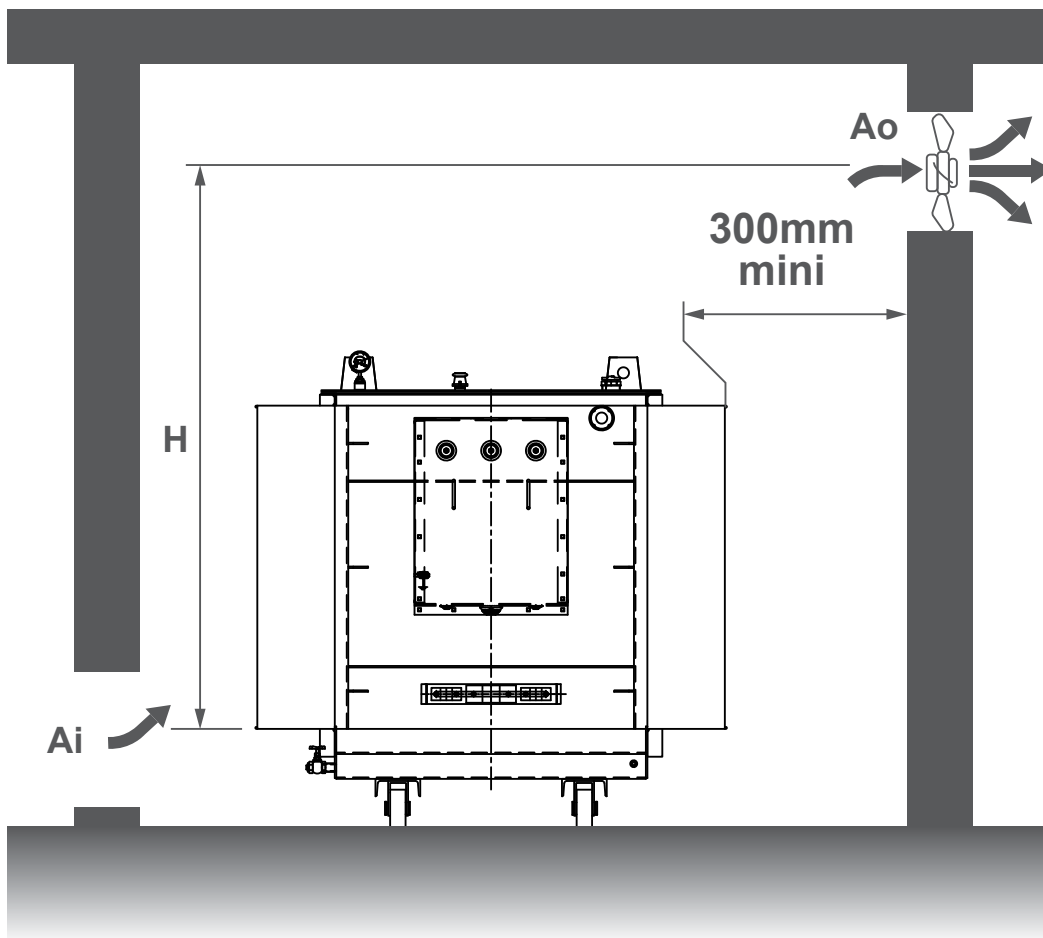

Figure 4
- Calculation of forced ventilation of plant room (figure 4)